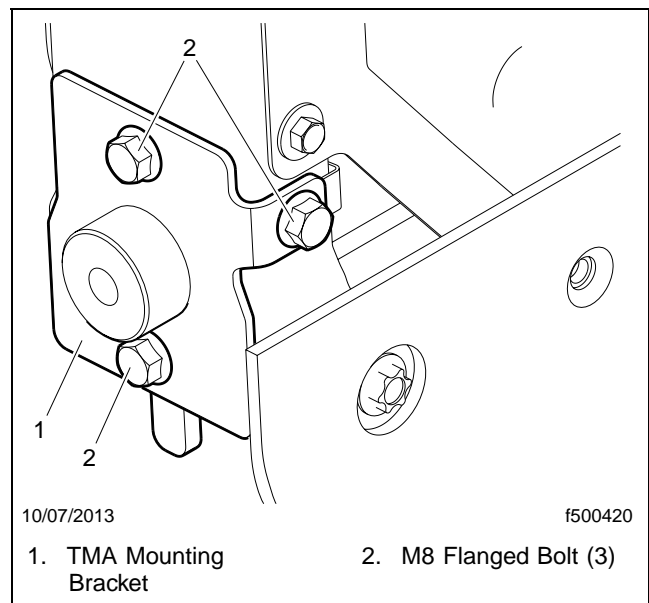

Fig. 8, Finished TMA Mounting Bracket Installation
- Install the two remaining M8 flange bolts through the bracket into the threaded plate as shown in **Fig. 8**. Tighten all three M8 flange bolts 17 lbf-ft (23 N·m).